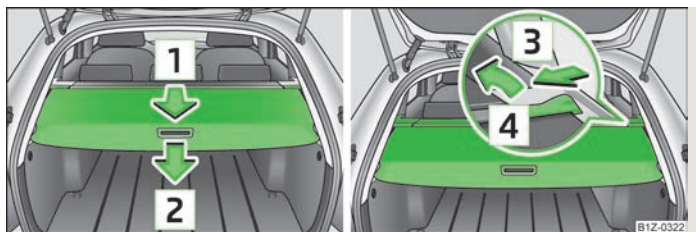

Fig. 56 Luggage compartment: foldable luggage compartment cover/removing foldable luggage compartment cover
► Pull the foldable luggage compartment cover in direction of arrow  » Fig. 56 as far as the stop into the secured position.
► Press the cover in the handle area in the direction of the arrow  » Fig. 56, and the cover automatically rolls up into position.
► The fully folded luggage compartment cover can be removed to transport bulky goods by pressing on the side of the cross rod in the direction of the arrow  » Fig. 56 and taking it out by moving it in the direction of the arrow .
If you wish to use the entire luggage compartment, the foldable luggage compartment cover can be removed » Fig. 56.